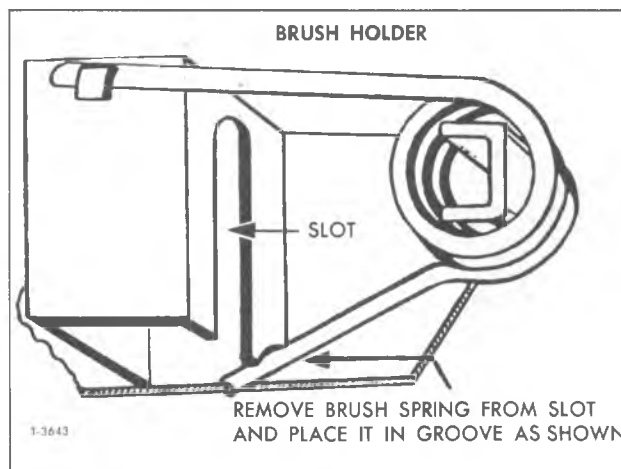

Figure 13—Releasing Brush Spring Tension
9. Remove brush tension by placing brush spring in holder groove as shown in figure 13.